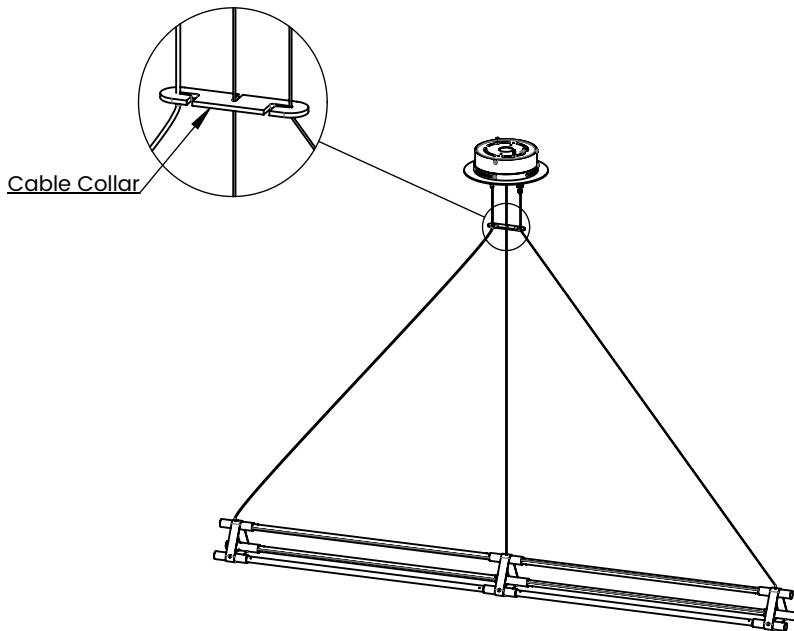

FIGURE 13
2. Install the cable collar as shown in Figure 13.